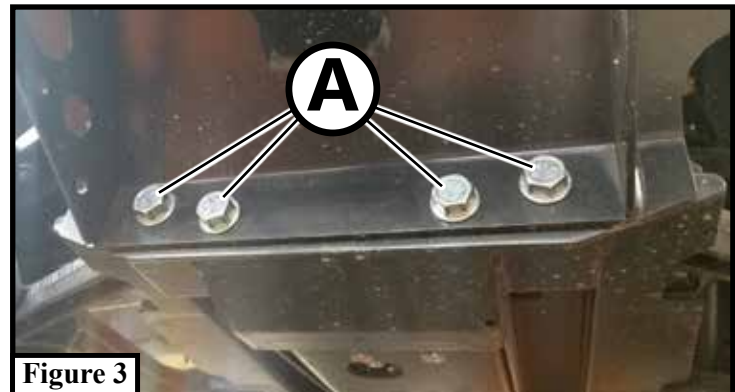

Figure 3
“Figure 3” Pitch Adjustment Bolt
Note: *Figure 3 shows the default pitch position and is recommended for proper blade level.*
2. Remove bolts (A) shown in Figure 3 and set aside to be re-installed in a later step.